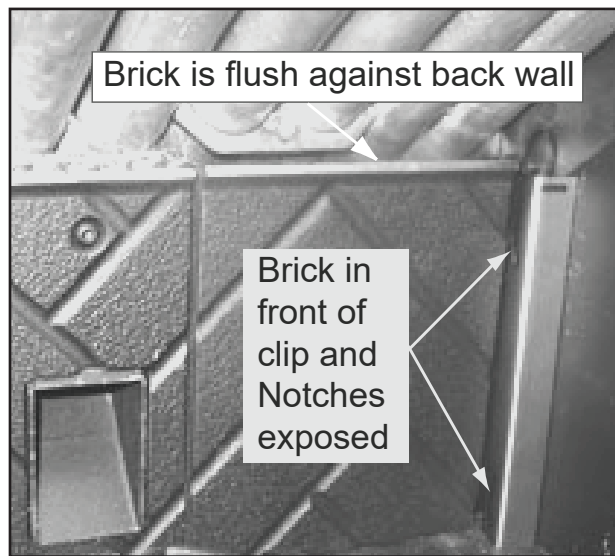

Figure 29.2
2. The brick will be flush against the back wall and the bracket's notches will be exposed (**Figure 29.2**).